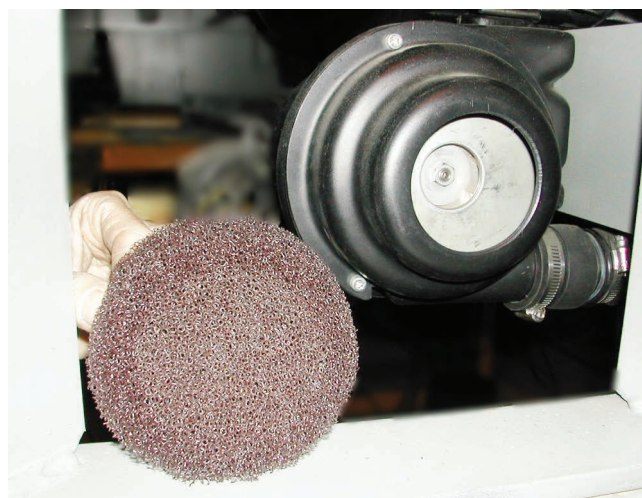

Figure 27
- Clean blower motor air filter (see Figure 27).